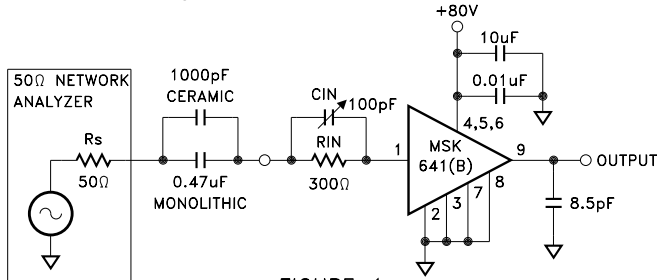

FIGURE 1
- ① R_{IN} = 300Ω, C_{IN} = 100pF, C_{LOAD} = 8.5pF, R_L = ∞, unless otherwise specified (See Figure 1).
- ② Guaranteed by design but not tested. Typical parameters are representative of actual device performance but are for reference only.
- ③ Industrial grade devices shall be tested to subgroups 1 and 4 unless otherwise specified.
- ④ Military grade devices ('B' suffix) shall be 100% tested to subgroups 1,2,3 and 4.
- ⑤ Subgroup 5 and 6 testing available upon request.
- ⑥ Subgroup 1,4 T_A = T_C = +25°C
The signal source in Figure 1 can be either a fast pulse generator or a network analyzer as long as the output impedance is 50 ohms. The DC level of the input should be 1.55V and all cables should be kept as short as possible. Since total load capacitance should be kept below 8.5pF, a FET probe should be used on the output.
Transimpedance amplifiers relate input current to output voltage. The MSK 641 contains an internal 4K Ω feedback resistor. This resistor converts input current to output voltage in the following manner (See Figure 1):